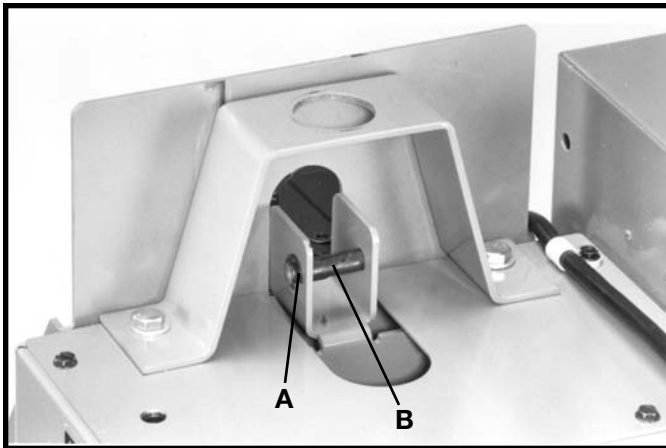

Fig. 24
1. Remove retaining ring (A) Fig. 24, and connecting pin (B).